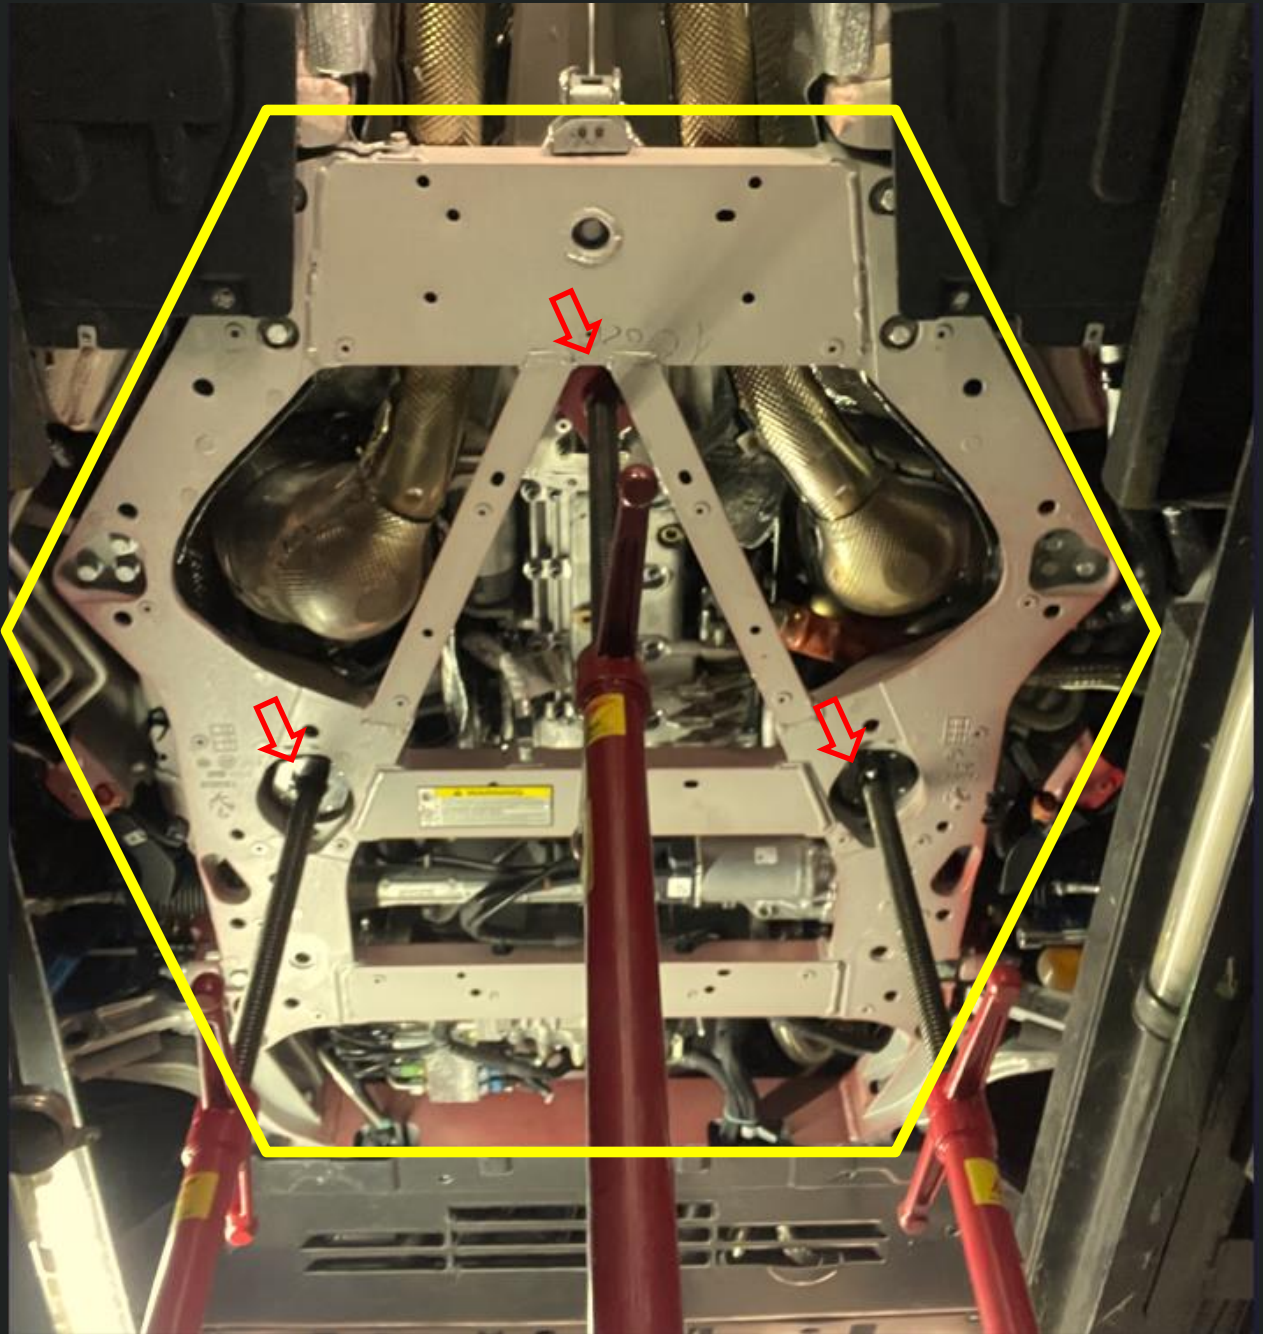

Figure 18
13. Place three top rods to Support the Engine Mounts* 2 and the Transmission (Figure 18, red arrows).
14. Remove the Chassis Frame Screws and Lower the Frame (Figure 18, yellow frame).